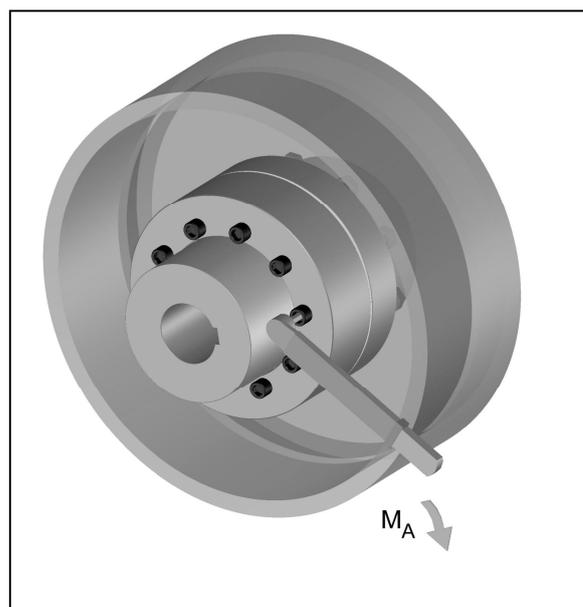

Fig. 13
- Tighten the claw ring threaded joint with the tightening torque M_A stipulated in table 8 (Figure 13).